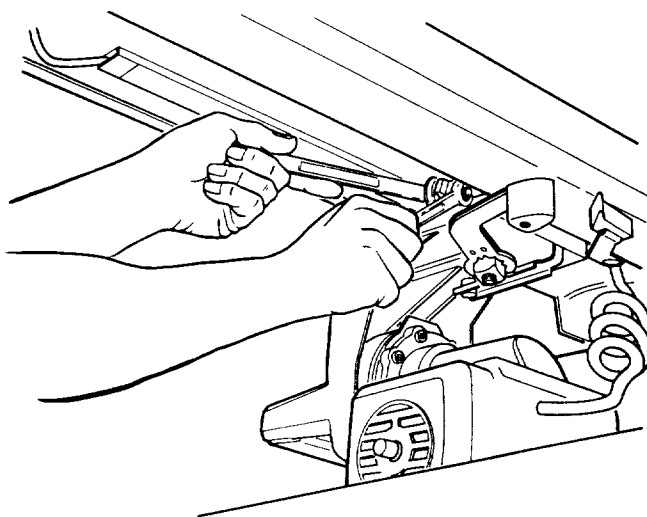

Fig. 82
6. Loosen the hex nut on the *rear carriage bearing*. Use a 9/16 inch wrench to hold the bolt and a 1/2 inch wrench to loosen the nut. (Figure 82)